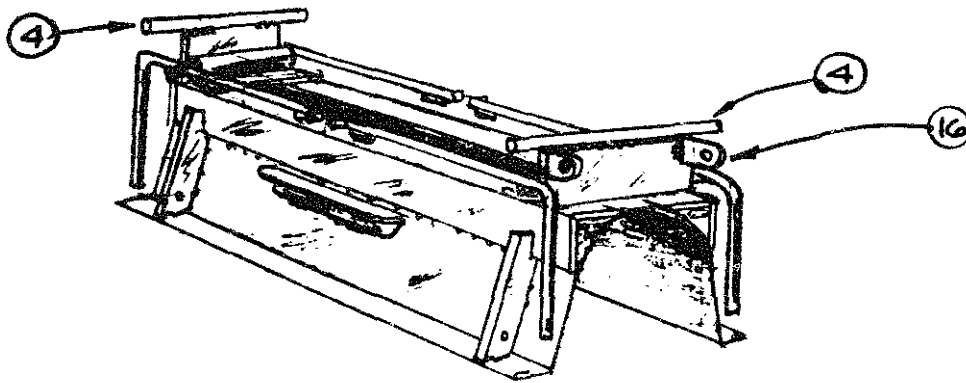

FIGURE 13 WELD ON HINGE PIECES (16) ON BOTH ENDS USING DOORS (6) AS GUIDES. ALSO WELD ON TWO RODS (4).
4. Mild steel rods, 10mm x 15.2cm (3/8" x 6") (see Figure 13). Two are needed. These are welded in place to make the form stand a little taller so the levers will not touch the work bench while the mortar is being tamped into the form. They also provide a wider base.
16. Steel bar, 19mm x 2.5cm x 6mm (3/4" x 1" x 1/4") (see Figure 13). Four are needed. Bore 6mm (1/4") hole for the hinge rod as shown. No. 15 pivots in these holes to make hinges for the doors. Parts No. 16 are welded to part No. 3 in such position as to be as far to the outside edge of the door as possible. It is best to make a trial positioning of the door and parts No. 15 and 16 by tack welding No. 16 lightly before welding it permanently. Then it is possible to make sure that the door is going to be in such place that the pipe will have its proper position.